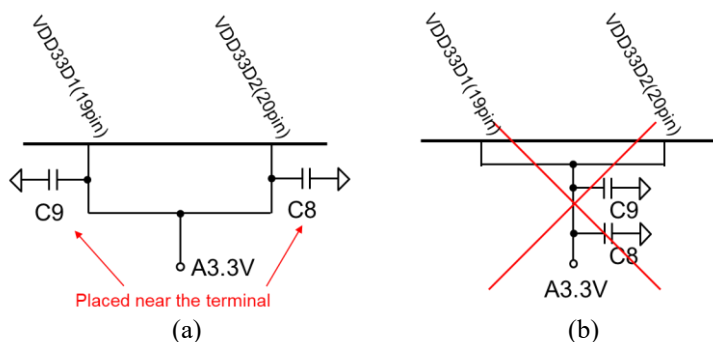

Figure 2-7 Example of connecting the decoupling capacitor of the power supply terminal of the DC-DC converter
- Figure 2-7 shows an example of connecting the decoupling capacitor of the power supply terminal of the DC-DC converter. As shown in Figure 2-7 (a), place the decoupling capacitor in the immediate vicinity of the power supply terminal.